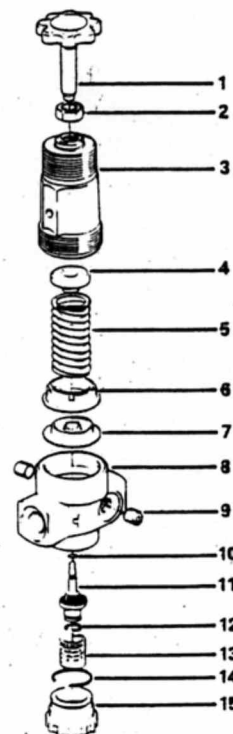

FIGURE 1.
1. In the following installation procedures, refer to *Figure 1* for part identifications.
4. Disassemble the regulator as shown in *Figure 1*.
1. Assemble the R22 Regulator as shown in *Figure 1*.